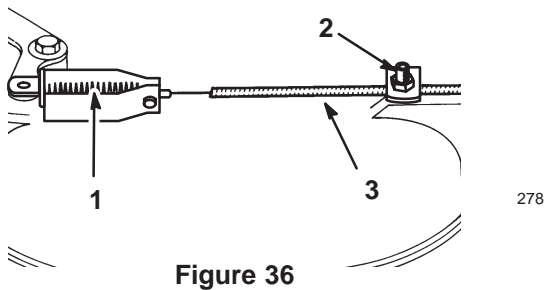

Figure 36
- Loosen the cable clamp screw until the cable conduit slides (Fig. 36).